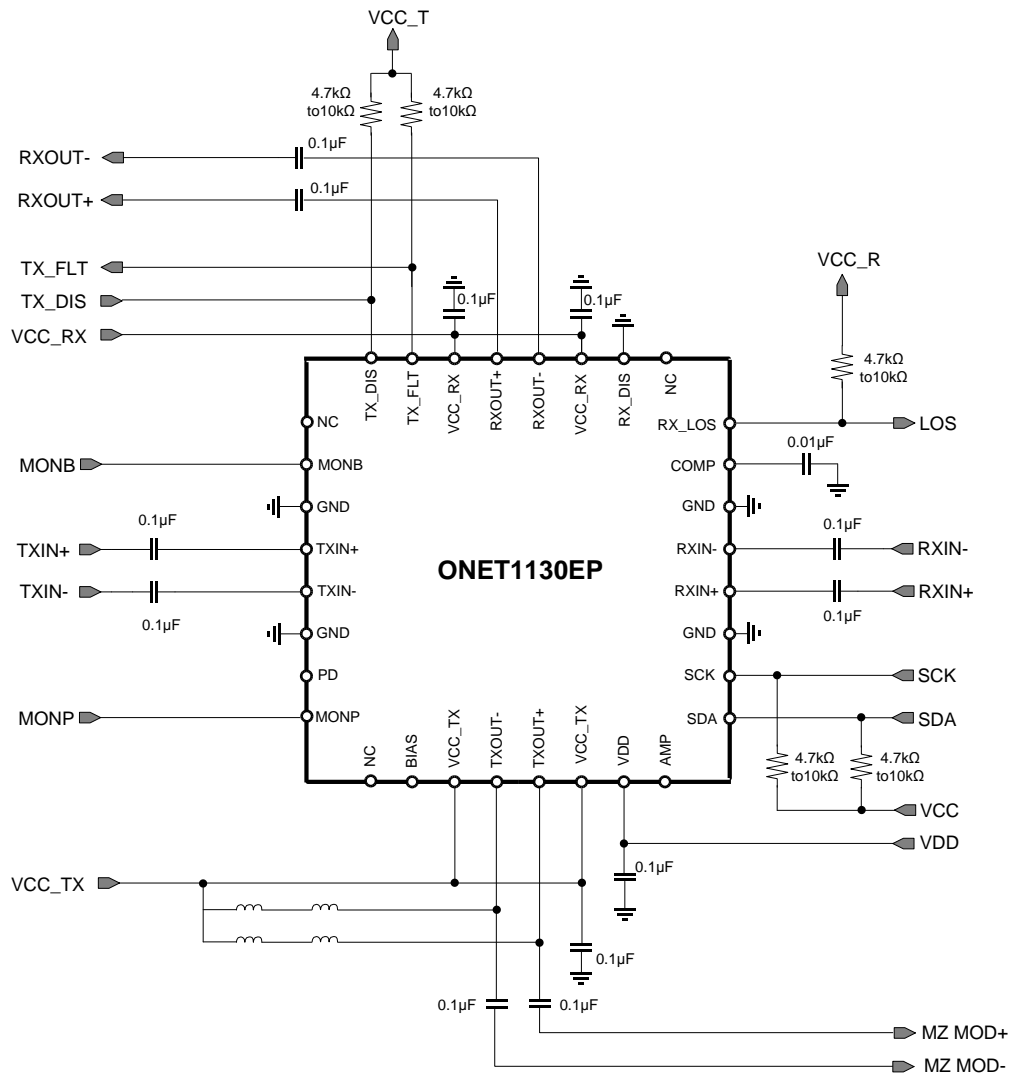
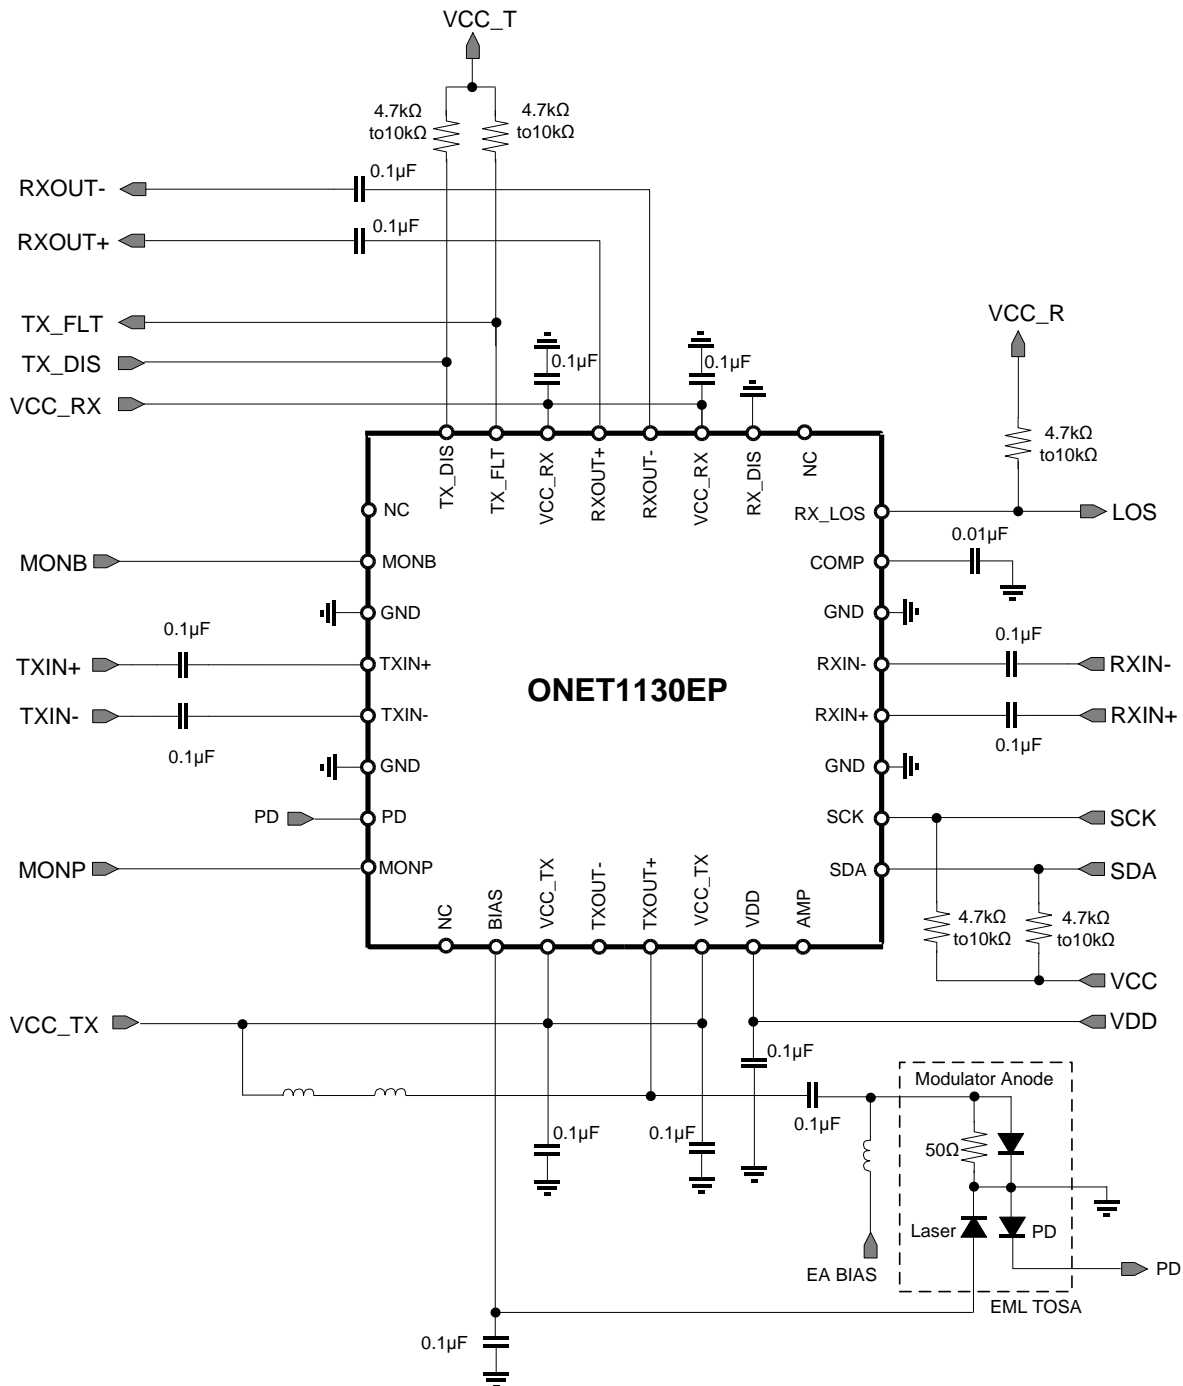
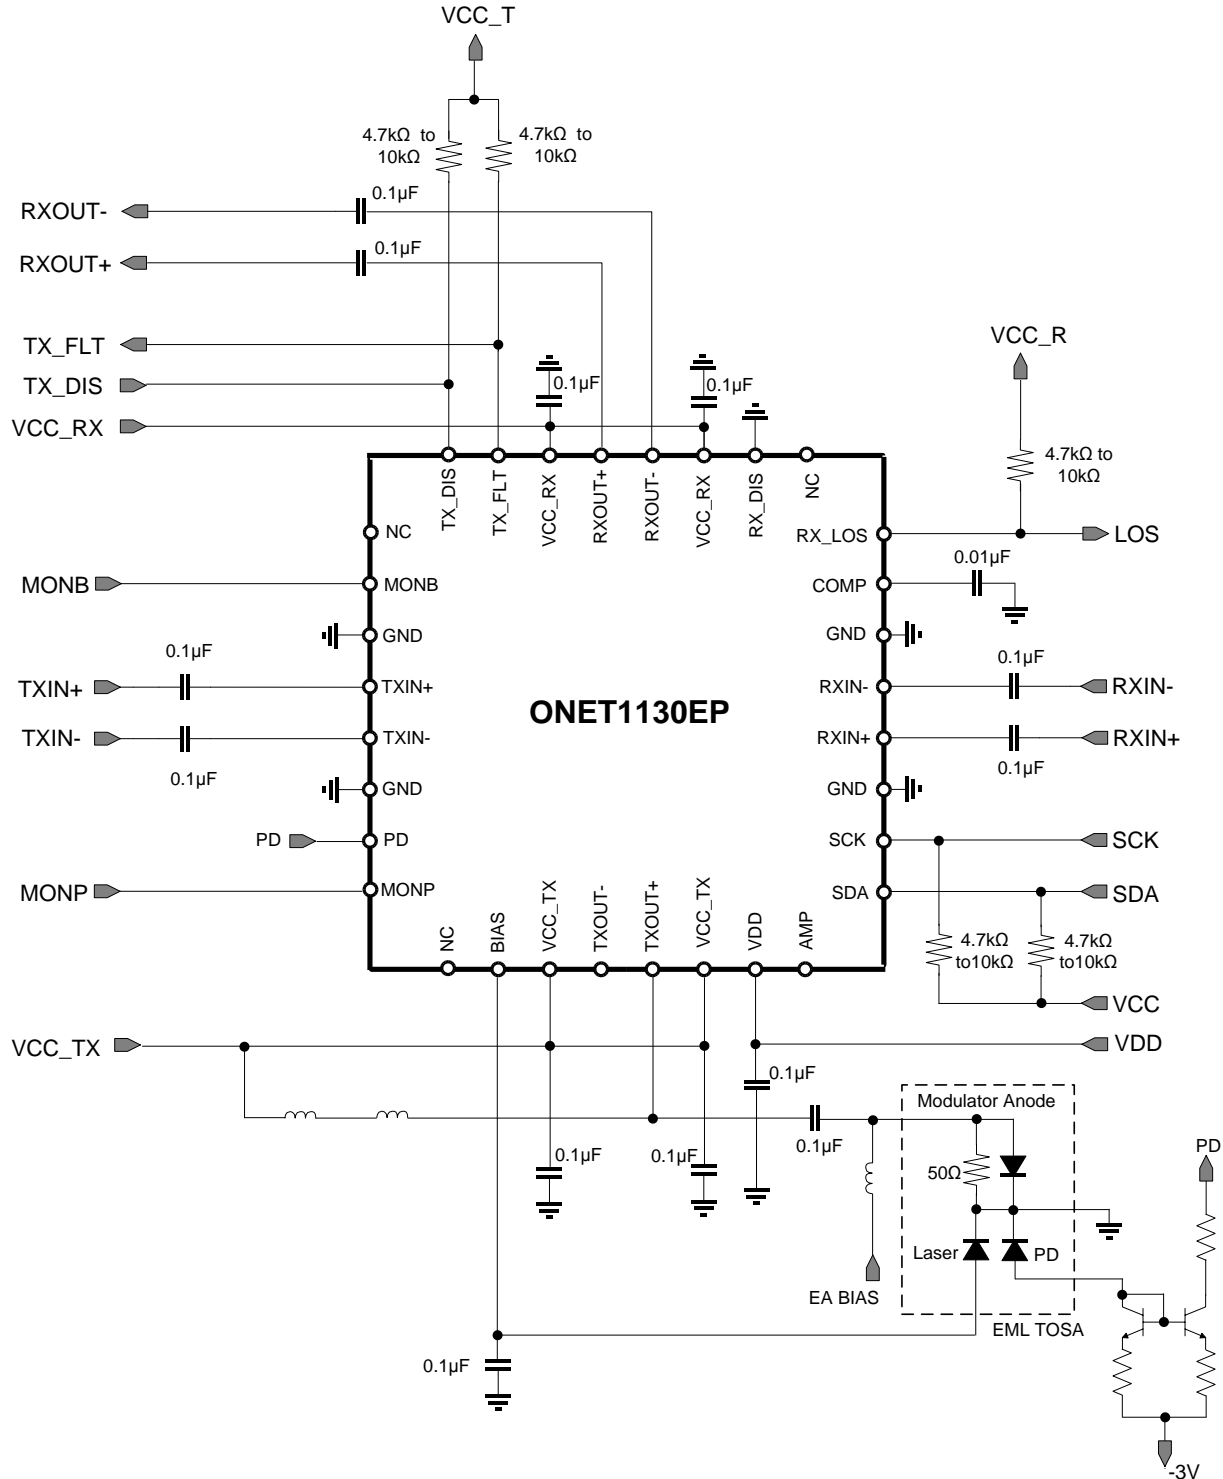

图 64. Typical Application Circuit in Differential Mode
图 66. Typical Application Circuit in Single-Ended Mode with an EML and the PD Monitor Cathode Available
图 67. Typical Application Circuit in Single-Ended Mode with an EML and the PD Monitor Anode Available
The ONET1130EP is designed to be used in conjunction with a Transmitter Optical Sub-Assembly (TOSA) and a Receiver Optical Sub-Assembly (ROSA). The ONET1130EP, TOSA, ROSA, microcontroller and power management circuitry will typically be used in an XFP or SFP+ 10 Gbps optical transceiver. 图 64 shows the ONET1130EP in differential mode of operation modulating a differentially driven Mach Zehnder (MZ) modulator TOSA and 图 66 and 图 67 show the device in single-ended output mode with an Electroabsorptive Modulated Laser (EML) TOSA. 图 66 has the photodiode cathode available and 图 67 has the photodiode anode available.